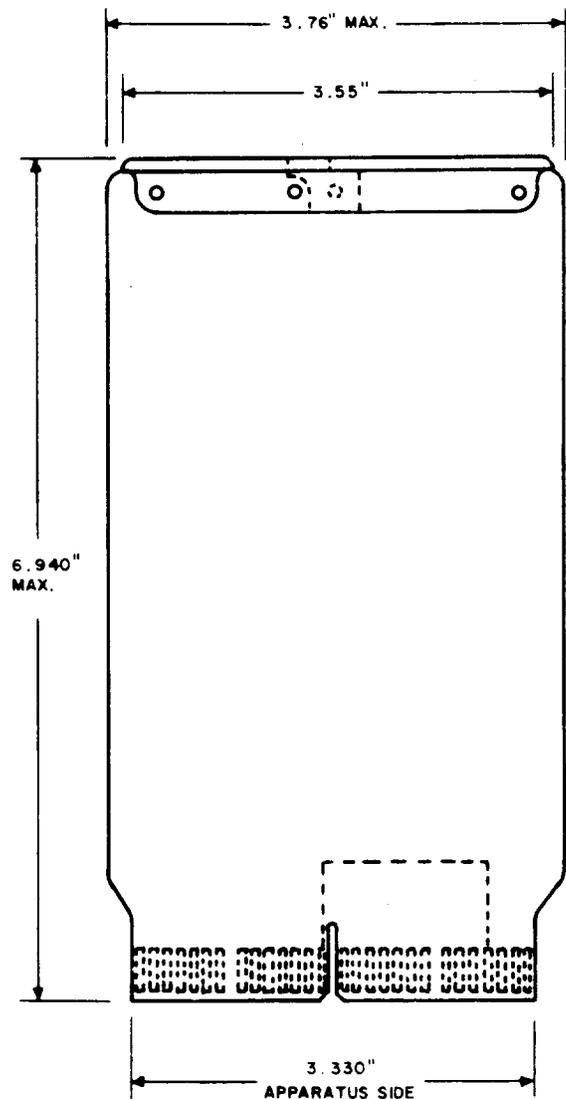

Fig. 1—782A Data Mapping Test Tool
2.06 **782A:** The 782A tool (Fig. 1) is a 1ESS switch data mapping test tool. When installed in the central control (CC), it allows, by software control, the data mapping program access to all program store (PS) information blocks, but prevents PS configuration change by the operating system software.